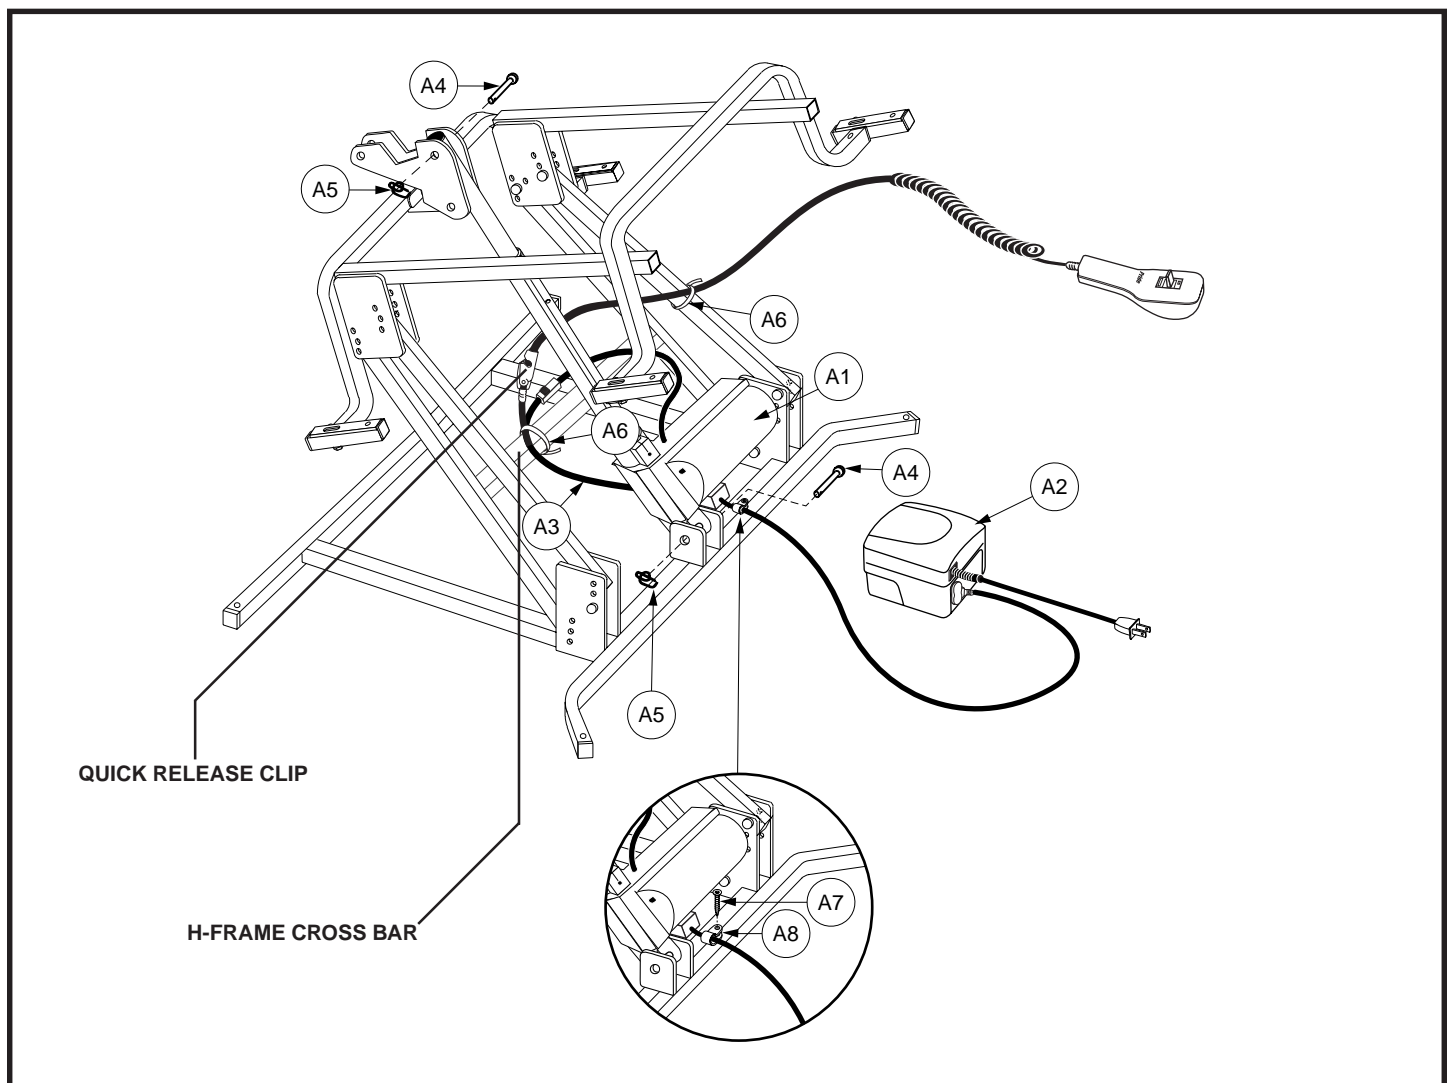

Figure 2. Motor Installation
6. Attach the new lift motor (A1) to the frame with the new cotter pins (A5) and clevis pins (A4) supplied with the assembly. See figure 2.
7. Attach the new connection cable (A3) to the frame with the new screw and cable clamp (A7 and A8) supplied with the assembly. Secure the cable right before it splits into two. See figure 2.
8. Route the connection cable (A3) through the lift frame as shown. See figure 2. Continue to route the cable until the quick-release connection is in the bottom of the lift chair side pocket.
9. Secure the connection cable and the motor cable to the lift frame with wire ties (A6). See figure 2. Use additional wire ties to secure excess cord to the cross bar on the H-frame. Cut the excess from the wire ties.